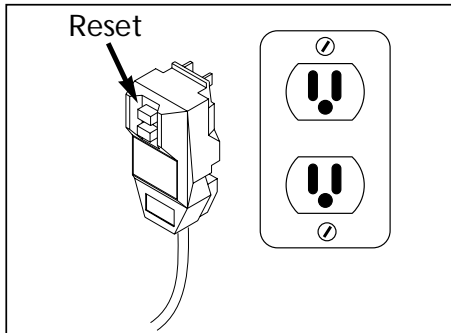

Figure 3 - Grounded plug/reset button
1. Plug the power cord into a grounded 120V outlet and press the reset button as shown in figure 3.